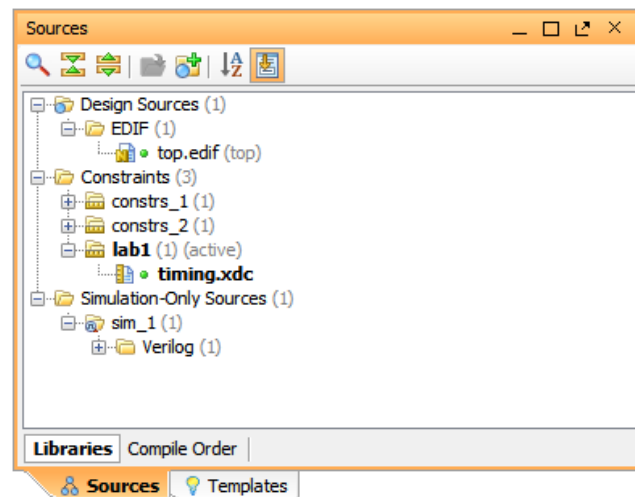

Figure 6: Sources window
You should see the new constraint set and XDC file in the Sources window as shown in Figure 6. The constraint set is made active as you directed when you created it.
8. Set the `timing.xdc` file as the target XDC file. All constraints added to the design will be saved in the target XDC file. In the Sources window, right click the `target.xdc` and choose **Set as Target Constraint File** from the context menu. See Figure 6.